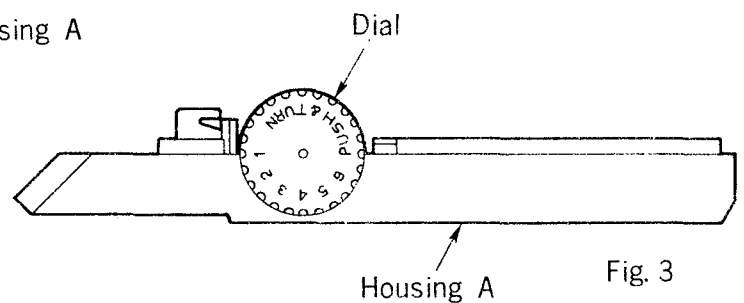

Fig. 3
5. Make sure the rack is set to the lowest position. Set the dial with fitting position '1' into the edge of housing A. (See Fig. 3)